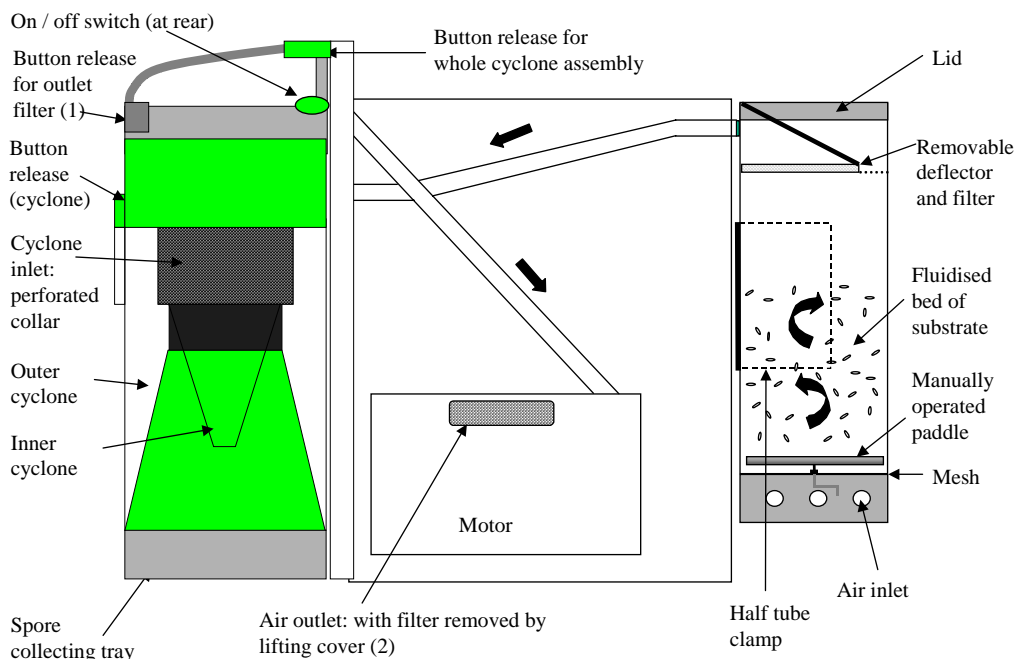

Figure 1. Assembly of the spore separator
The MycoHarvester is supplied completely assembled. For ease of transportation, the fluidised bed can be removed using a half-tube clamp attached to the right hand side of machine to which is clipped the fluid bed column (see Figure 1). The cyclone unit (left hand side as illustrated) can be removed using a button release mechanism at the top.
All pipe work and the area around the cyclone inlets should be inspected regularly for build-up of powdery deposits. Spore deposits commonly build-up around the perforated collar of the cyclone inlet (see Figure 1). They may be cleared by giving the unit a sharp tap, the use of bottle brushes, or by using a vacuum cleaner.
There are two filters on the MycoHarvester and their positions are indicated in Figure 1. One filter is attached to the motor (2) and the other can be found between the cyclone and the main head (1). The motor filter should be inspected frequently (after every 10 hours of use), and must be replaced regularly. The cyclone filter is reusable and should also be inspected regularly. This may be washed in cool water but must be allowed to thoroughly dry before reusing. Typical washing cycles are every 2-3 months with motor filters replaced every year.